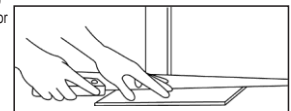

Figure 4
- Undercut door casings and jamba. Remove any existing base, shoe molding or doorway thresholds. These items can be replaced after installation. All door casings and jamba should be undercut to avoid difficult scribe cuts (figure 4).